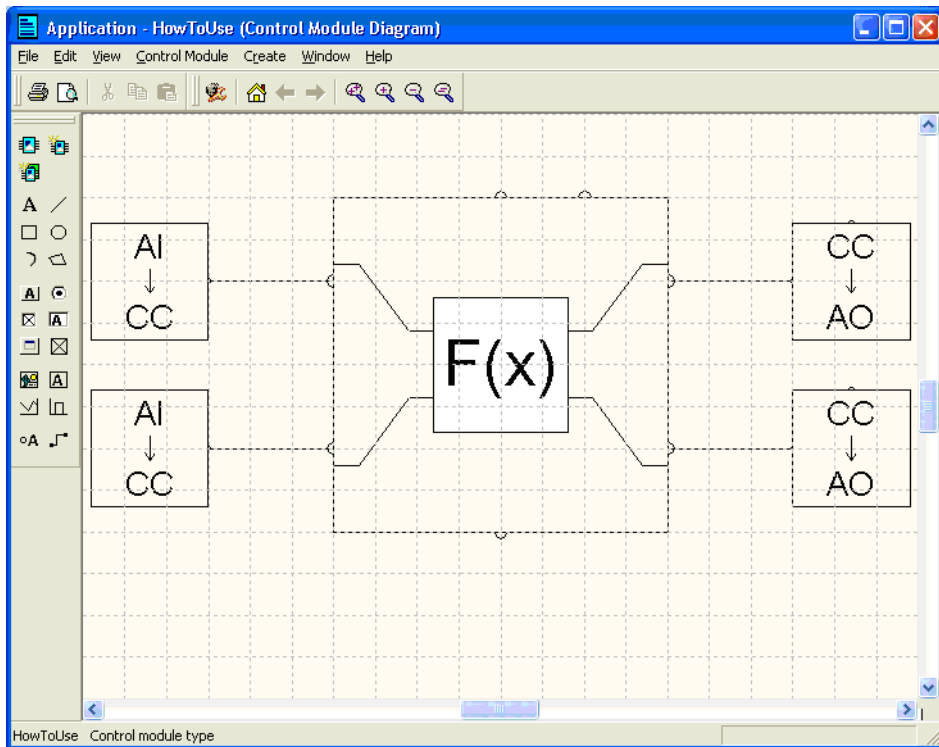

Figure 66. Connection of the MIMO22CC object
8. Connect the control modules correctly. Figure 66 shows the completed connection for the `Mimo22CC` object.